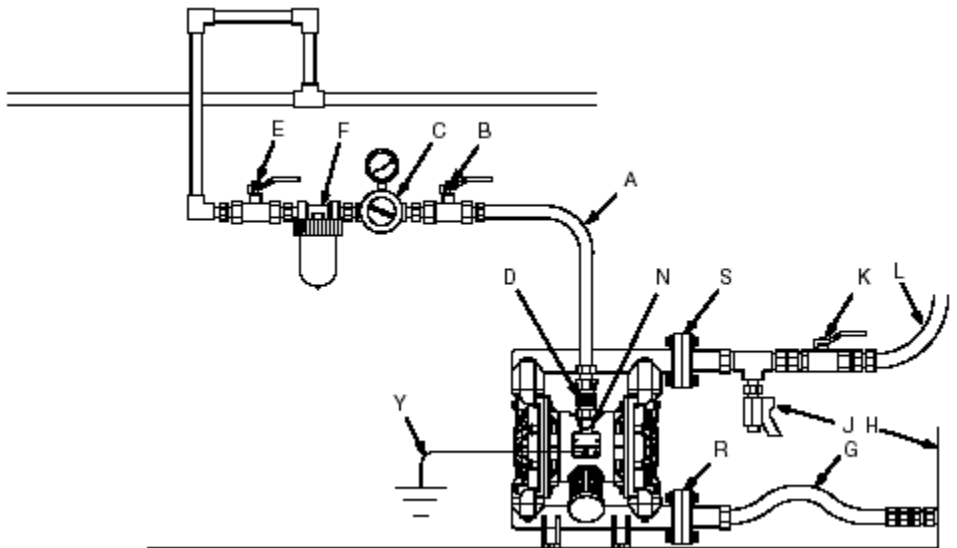

Fig 2
4. Place the end of the outlet hose (L) into an appropriate container.
5. Close the fluid drain valve. Refer to Fig. 2.